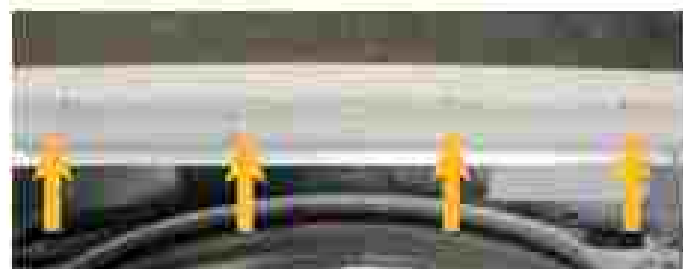

Figure 3 - Console clips.
6. Gently lift up on the four (4) console tabs as shown in Figure 3. Separate console assembly from bracket while routing the HMI harness through the opening in the console bracket.